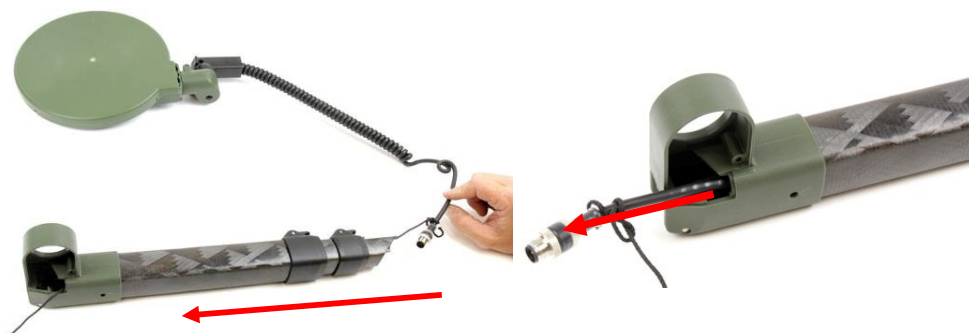

Figure 66: Threading Coil Cable through Shafts
- Connect the coil cable pull-through to the coil connector. Alternatively, a piece of string could be used to thread the coil cable into the shafts. Figure 66.